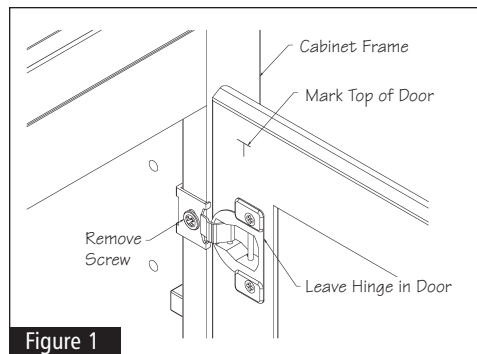

Figure 1
- 1** Remove the lower door(s) from the utility cabinet frame and place the doors face down on a non-abrasive surface such as a soft cloth. **HINT:** you may want to mark the frame where the hinges are attached to the frame and mark the top of the door. See Figure 1.